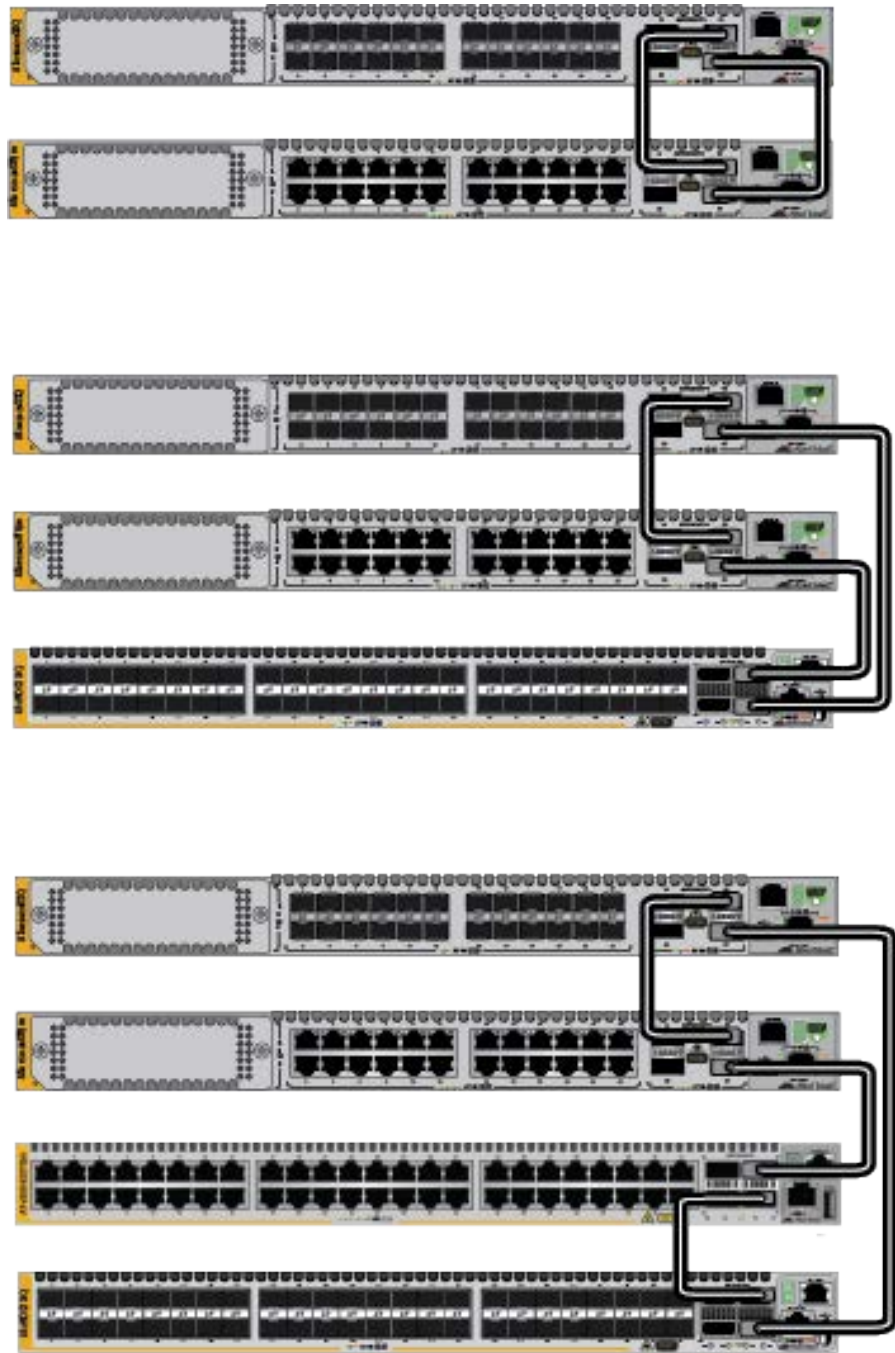
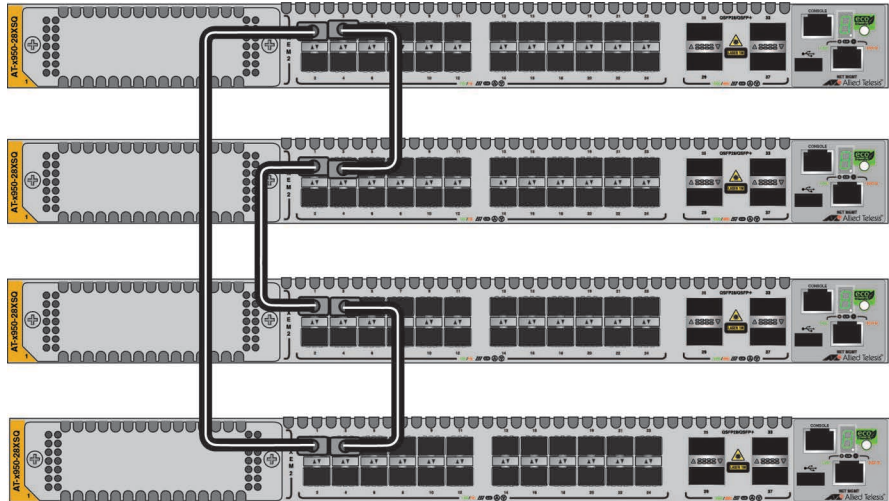
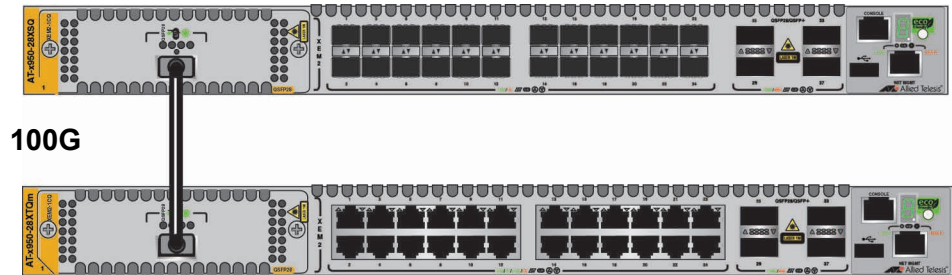

Figure 35. Stack Trunk Examples with 100G Links
Figure 43. Unsupported Trunk with Only One Link Between Switches
Figure 45. Not Recommended Stack Trunk of AT-XEM2-12XS Line Cards
- ❑ Figure 35 illustrates stacks of two, three, and four switches, with ports 33, 37, 57 and 61 and 100G links as the trunks.
- ❑ In most cases, trunks should have a minimum of two links between switches. The trunk in Figure 43 is not recommended because there is only one link between switches. The exceptions to this are stacks of three or more switches with trunks of base 100G ports. Refer to Figure 35 on page 92.
- ❑ Allied Telesis does not recommend using the AT-XEM2-1CQ Line Card for a stack trunk because it has only one transceiver port and the switch has only one expansion port. Refer to Figure 45 on page 98. Instead, use two base 40/100G transceiver ports, as shown in Figure 35 on page 92, to build a 100G trunk.